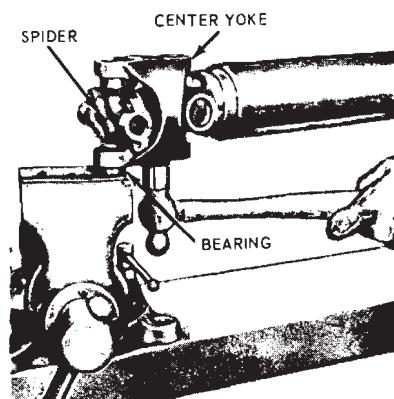

FIG. 5—Removing Bearing from Center Yoke
5. Tighten the bearing in the vise and drive on the center yoke as shown in Fig. 5 to free it from the bearing.
8. Grip the bearing in a vise. Drive on the center yoke to free it from the bearing (Fig. 5).